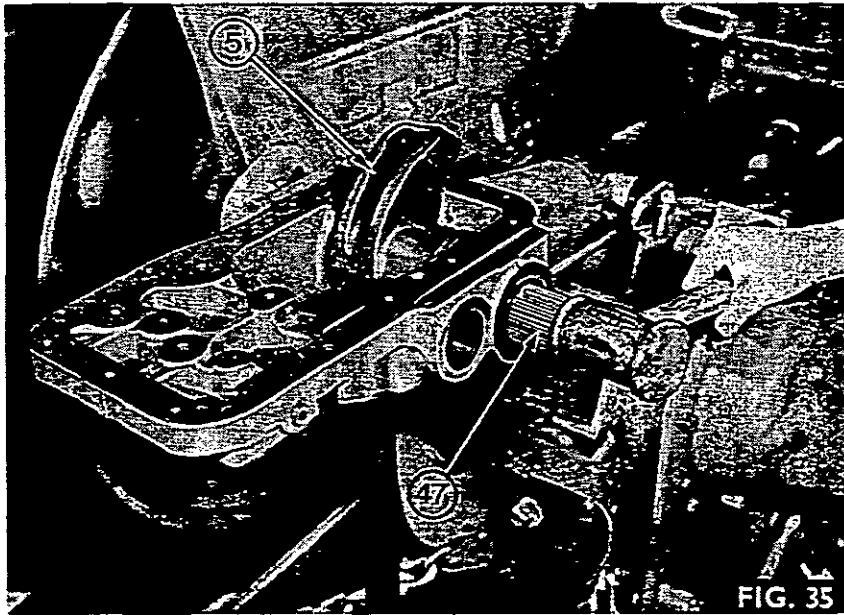

FIG. 35
13. Fig. 35. Drive the remaining lift arm and shaft (47) out of the lift cover and remove the ram arm (5).
3. Fig. 35. Position the ram arm (5) in the lift cover, apply Loctite Type AV or Casco Metalock ML15 to the threads, and screw the setscrew into the ram arm until engagement is made with the connecting rod, then slacken off the setscrew  $\frac{1}{4}$  of a turn.
4. Slide the lift arm and shaft (47) with a new 'O' ring into the lift cover and ram arm (5), aligning the master spines on the shaft and ram arm.
8. Tighten the L.H. bolt so that the lift arms just move freely through their travel with no lift shaft (47) end float, and secure with a new tabwasher.